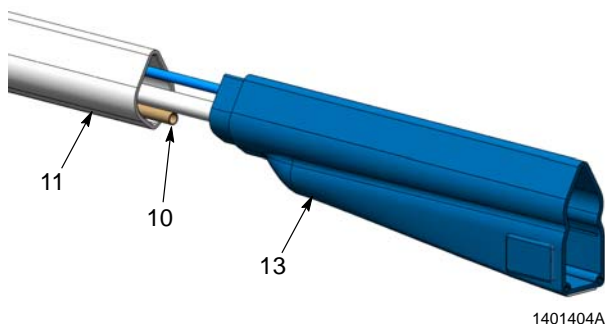
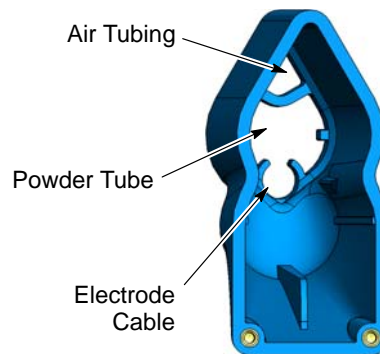

Figure 7 Pulling Housing Off Body Tube
Figure 8 Air, Powder, and Electrode Cable Routing Through Housing
4. See Figure 7. Pull the housing (13) off the body tube (11) to expose the cable guide (10).
5. See Figure 8. Route the new electrode cable through the housing as shown. Pull the cable through the housing, while guiding the multiplier into the housing, until the heatsink is about 1 inch from the end of the housing.
6. See Figure 7. Insert the end of the cable into the cable guide (10) and route the powder tube and air tubing through the housing as shown in Figure 8.